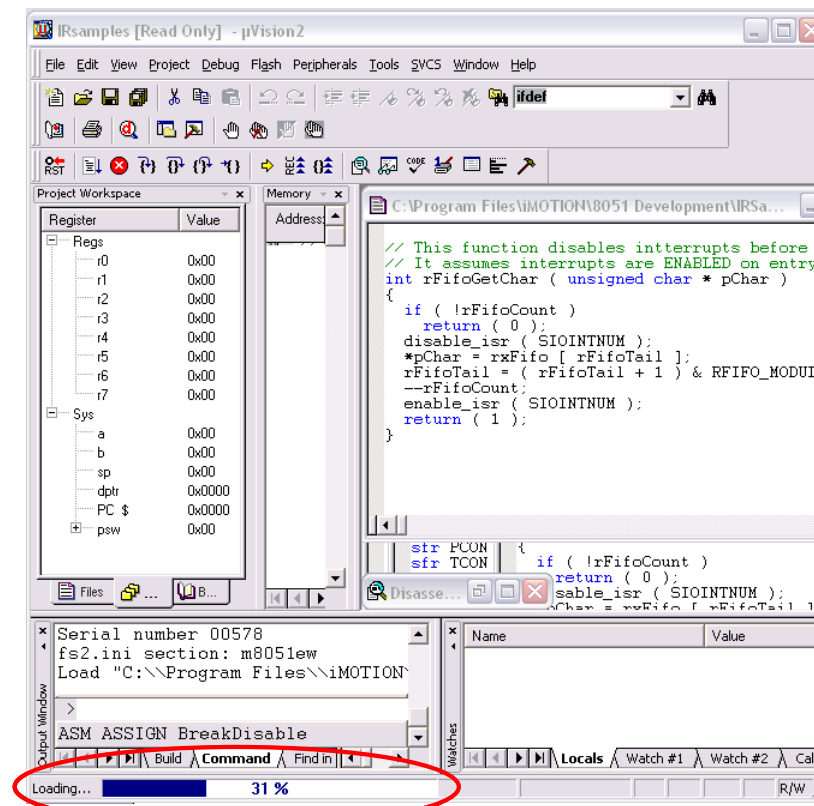

Figure 4: uVision window during 8051 program load.
3. Choose Debug→Start/Stop Debug Session. The FS2 Console should come up briefly and a status bar in the lower left corner will display the progress in loading the 8051 code to RAM, shown in Figure 4 below.